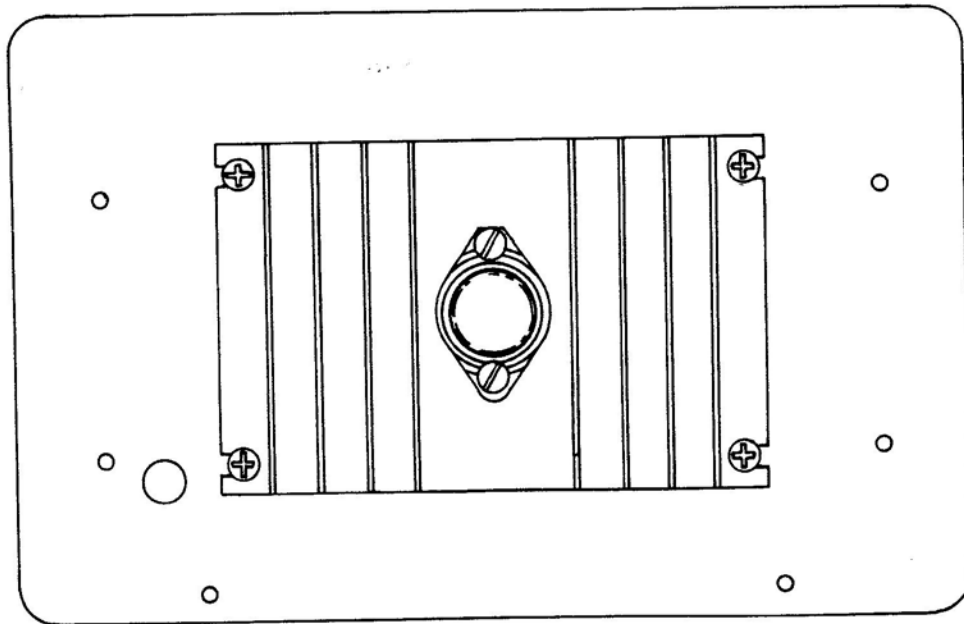

Fig. 9. The heat sink and the regulator mounted on the back panel.
- (6) Wrap one end of the solid red wire around the end of pin 3 of the voltage regulator. Now place the heat sink on its side again and solder the red wire to pin 3 of the regulator (S1)
- (7) Connect the positive lead of the 10 μf capacitor to pin 2 of the voltage regulator (NS). Wrap the capacitor lead around the end of the pin to hold it in place. Connect the other lead to solder lug A (S2)
- (8) Wrap the end of the red stranded wire around the end of pin 2 of the regulator. Place the heat sink on its side and solder the red stranded wire and the capacitor to terminal 2 of the regulator (S2)
- (9) Carefully inspect the regulator to be sure that no solder has run down the pins leaving a large glob of solder. If there is a large glob of solder, heat the pin with your soldering iron and let the solder roll off the pin onto your iron
- (10) Insert the 7/8" rubber grommet in the large hole in the back panel (PA62). Place the back panel so that the 3/8" hole is at the lower left
- (11) Now feed the leads soldered to the regulator through the grommet and mount the heat sink on the panel as shown in Fig. 9, using four 3/8" long 6-32 Phillips head screws. Place a lockwasher and nut on each screw. Tighten the four mounting screws and nuts to hold the heat sink in firm contact with the back panel